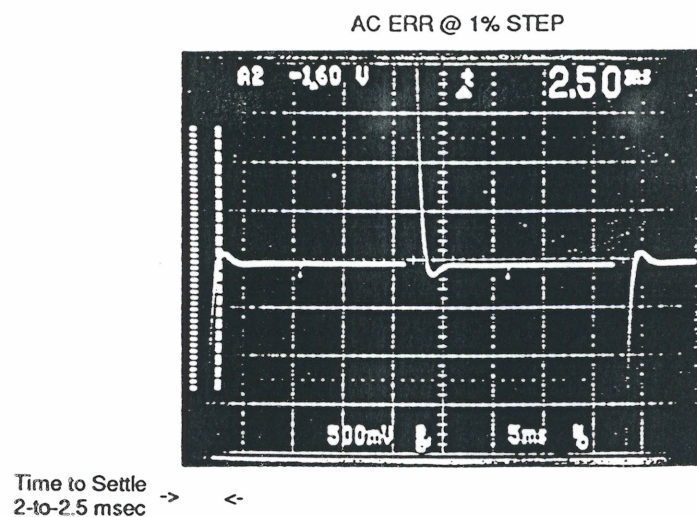

Figure 4
12. Using very small changes (to minimize the counter-affect of the 100% step), adjust VR1, VR3 and VR6 until the AC ERR trace is at ± 100 mvolts of its final value, within 2-to-2.5 msec from the start of the trace as shown in Figure 4. Check both directions of the step using the + and - trigger slope.